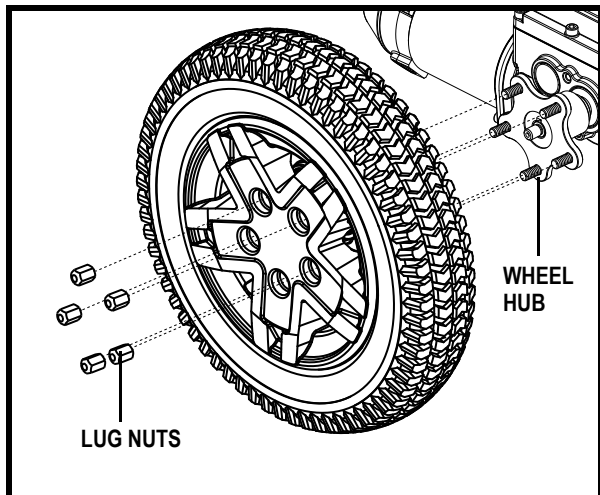

Figure 20. Q6 Edge Series Drive Wheel
4. Remove the (5) lug nuts from the wheel hub. See figure 20.